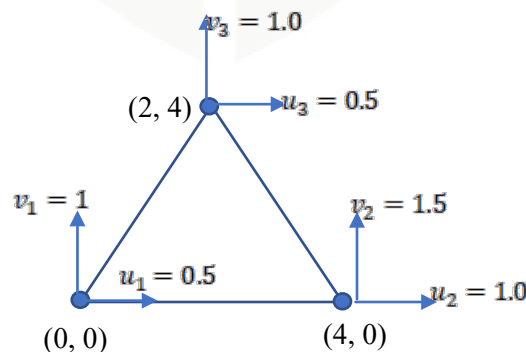

Fig.3.
8. The nodal displacement components (in mm units) of a triangular element from the finite element analysis of a thin plate is shown in Fig.3. Develop appropriate approximations for the u and v fields within the element in terms of area coordinates .
- (ii) Compute the consistent nodal load vector when a surface traction of uniform intensity  $w$  N/m length acts normal to the edge containing nodes with coordinates (4,0) and (2,4) of the triangular element shown in Fig.3. (5 marks)